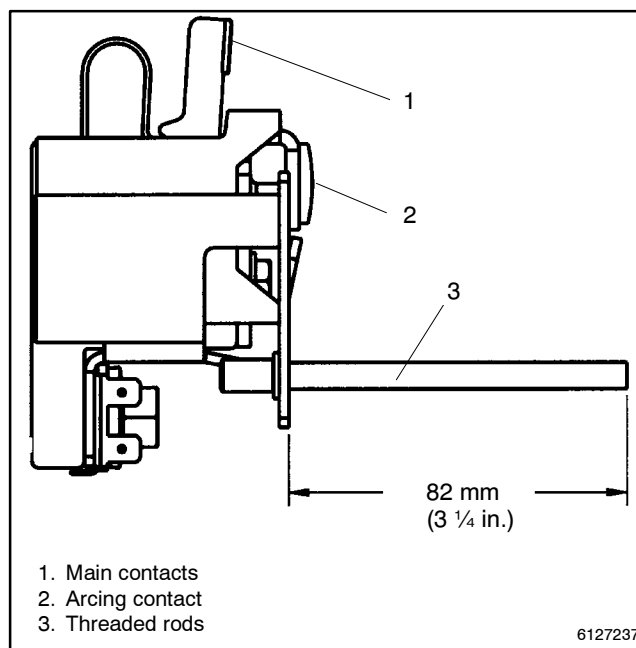

Figure 8-18 Threaded Rods For Arc Chutes
1. Check the arc chute mounting rods. Make sure the two threaded rods are installed in the arc chute support plate. They should extend out from the plate no more than 82 mm (3.25 in.). The two threaded rods should have thread sealant to hold the proper length. See Figure 8-18.